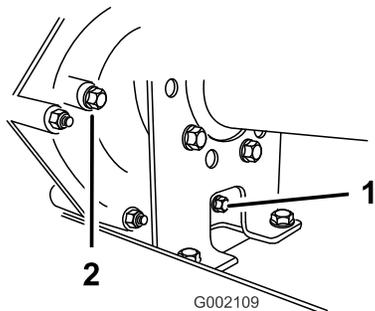
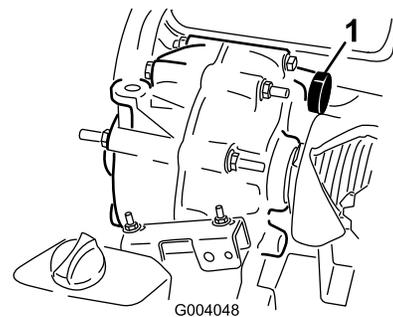

Figure 62
Figure 63
2. Wipe the area around the fill and drain plugs clean with a rag (Figure 62).
4. Remove the fill plug by rotating it counterclockwise (Figure 62).
5. Remove the drain plug by rotating it counterclockwise (Figure 62).
6. Install and tighten the drain plug and gasket into the drain-plug hole of the transmission (Figure 62).
7. Fill the reservoir (Figure 63) through the fill-plug hole with approximately 1.4 L (1.5 US qt) of the specified fluid or until the fluid level in the transmission is even with the bottom of the threads. (Figure 62).
8. Install and tighten the fill plug and gasket into the fill-plug hole of the transmission (Figure 62).
10. Check the fluid level and add more fluid if the level is below the threads of the fill-plug hole (Figure 62).